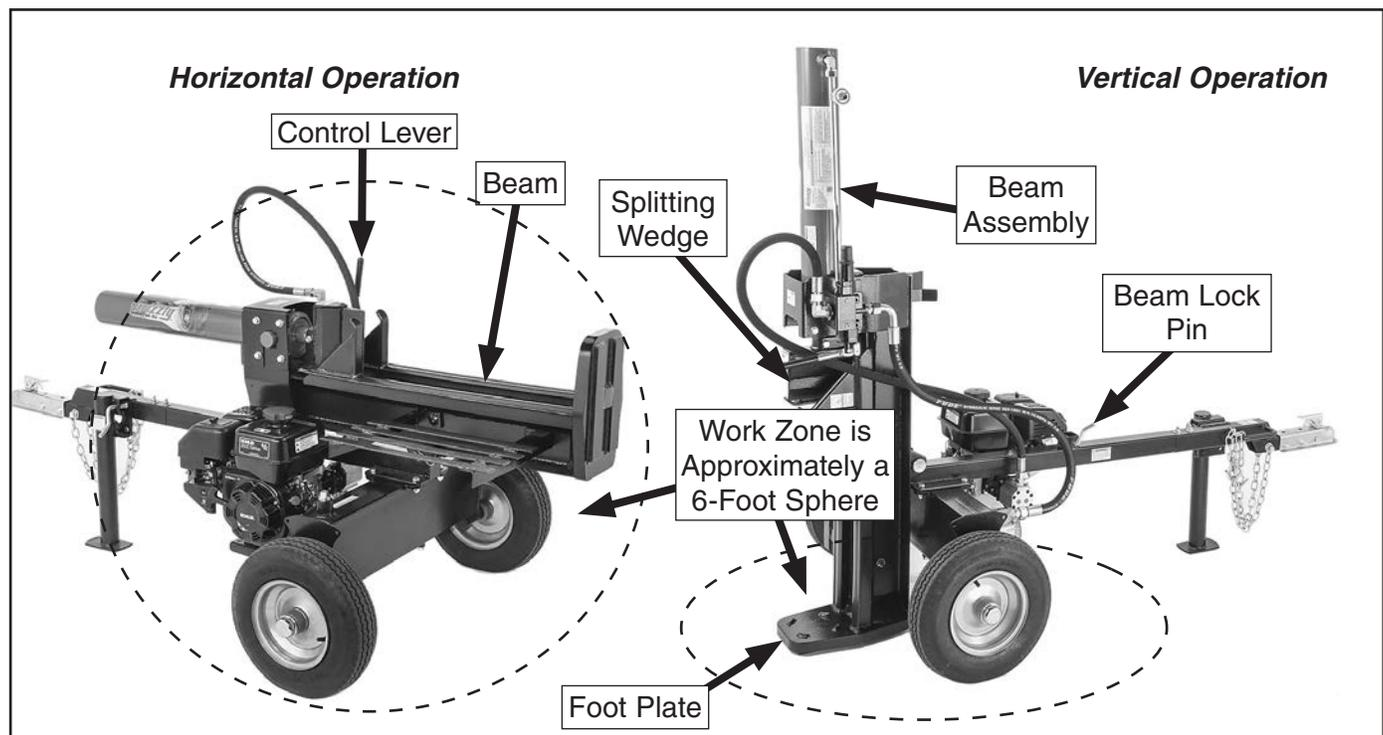

Figure 37. Horizontal and vertical log splitter operating positions.
The log splitter can be operated in either the horizontal or vertical position, as shown in **Figure 37**. The horizontal position is generally for lighter, easy-to-lift logs; the vertical position is generally for splitting heavier logs that are difficult to lift onto the log splitter.
4. Move beam and cylinder assembly to either horizontal or vertical position (see **Figure 37**).
8. Make sure bystanders are out of work zone and that zone is clear of split logs. The work zone is an approximate 6-foot sphere that extends around log splitter, as shown in **Figure 37**.